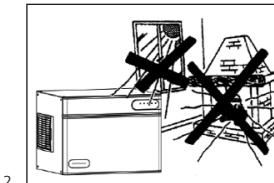

Fig. 2.
- e) Machine is away from sources of heat and in a sufficiently ventilated area. A distance of at least 20 cm must be allowed between the sides and back of the machine from the walls (Fig.2, Fig.3).